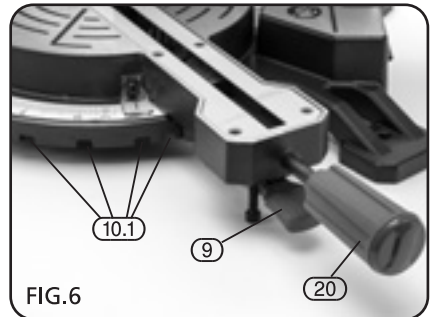

FIG.6
8.6 MITRE LOCKING ASSEMBLY - FIG. 6